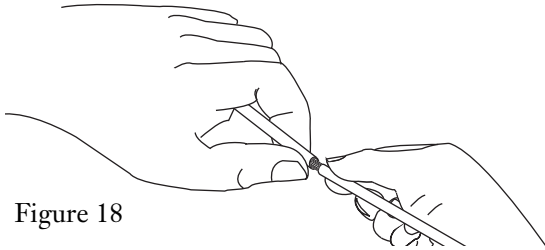

Figure 18
- d) Carefully flex the tube to break it at the score point. The break should be clean and free of rough edges (Figure 18).